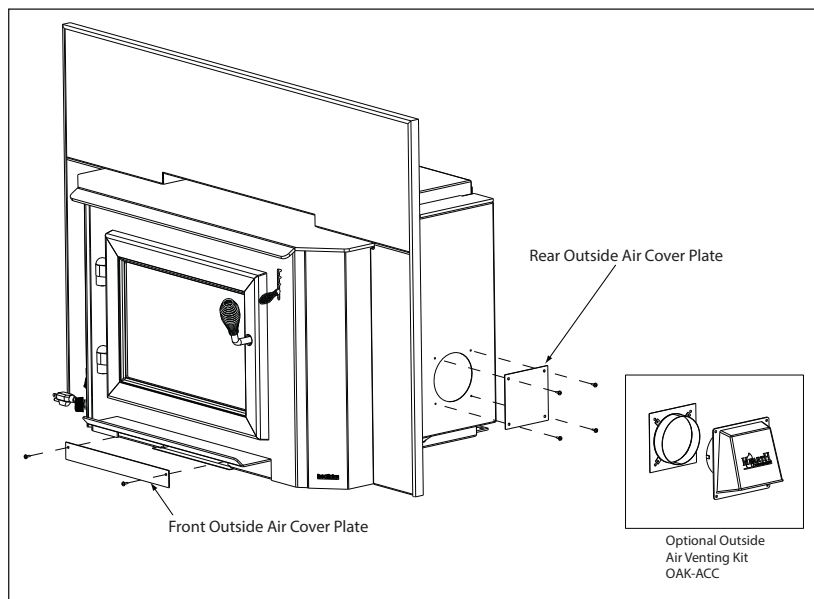

Figure 39.1
1. Remove the Rear Outside Air Cover Plate on outer can and discard and reuse 2 screws. **Figure 39.1.**
1. Remove the outside air cover plate B on outer can and discard. **Figure 39.1.**